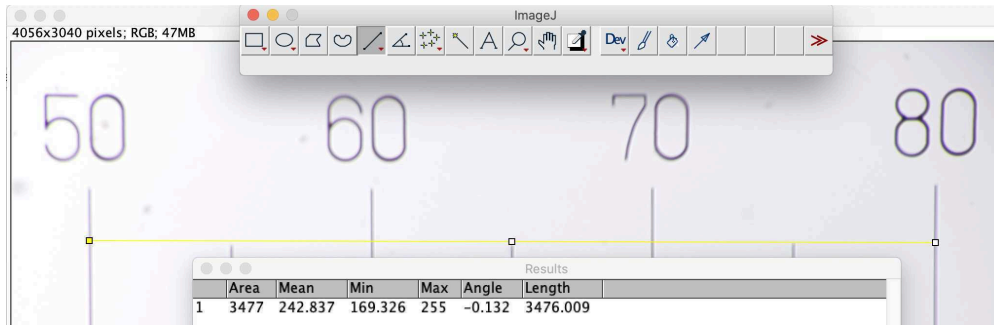

Figure 5: Line drawn using ImageJ on the picture taken with the PlanktoScope
4. Click on the line button (see Fig.5) and draw a line of known length by holding down the click
Length(micron)/Length(pixels). In this example (Fig.5), the line is 3476 pixel length for 30 mm (3000 μ m), which means that one pixel measure 0.86 μ m. This ratio is different from the one expected and need to be fixed.